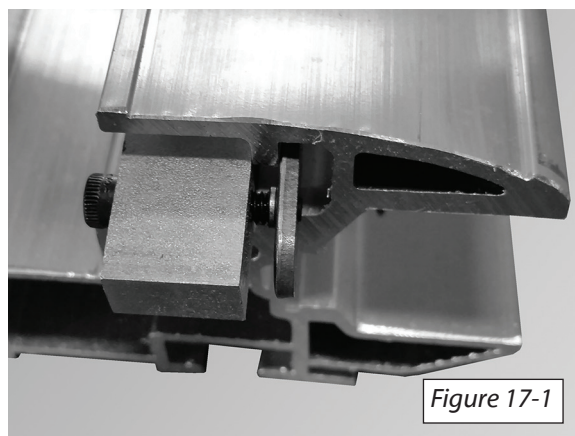

Figure 17-1
10. Insert the end stop into the gear rack channel at the lower end of the rail [Figure 17-1]. The final position of the end stop will be determined after the gear rack has been adjusted.